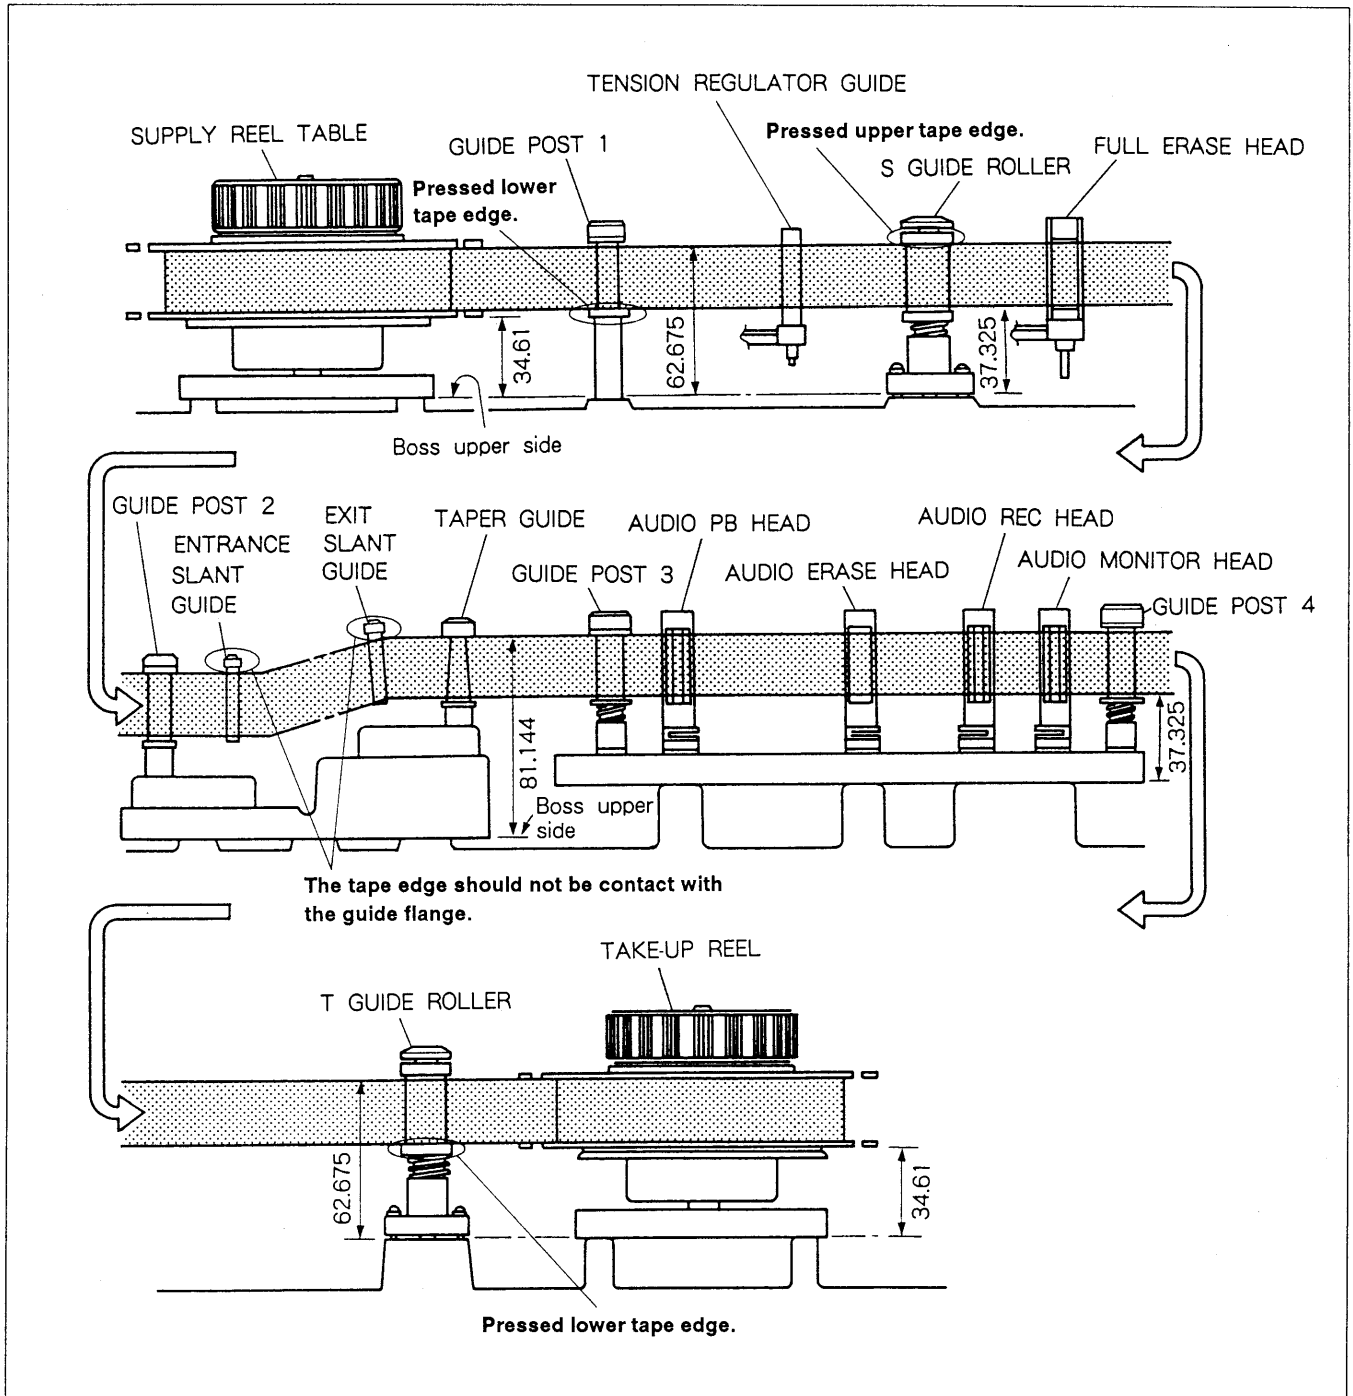

Fig. 9-3-3. Height of Each Guide
- The standard of reel and guide heights are shown in Fig. 9-3-3. When a component has been replaced, mount the component in reference to the value shown below. For more details, refer to height adjustment of each guide.
Before replacing the guide post, perform height adjustment referring to Fig. 9-3-3.
Before replacing the T guide roller assembly, perform height adjustment referring to Fig. 9-3-3.